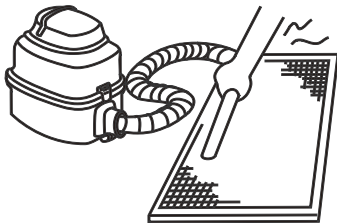

Figure 13.2
- The air intake side should face up when using a vacuum cleaner. (Refer to Figure 13.2)